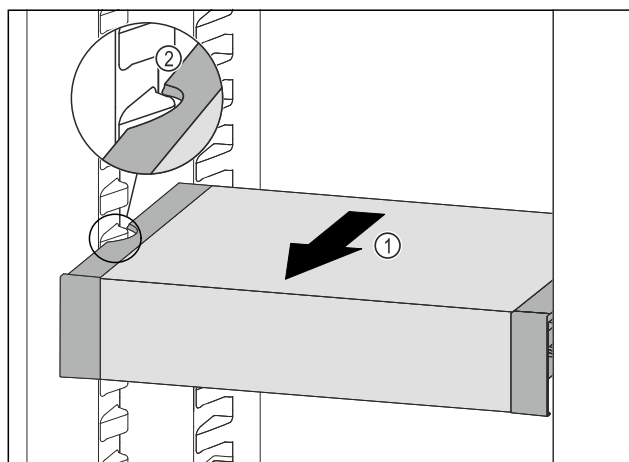

Fig. 205
- Pull VarioSafe forwards Fig. 205 (1) until the recesses in the side of the VarioSafe are at the level of the support rib in the fridge section. Fig. 205 (2)